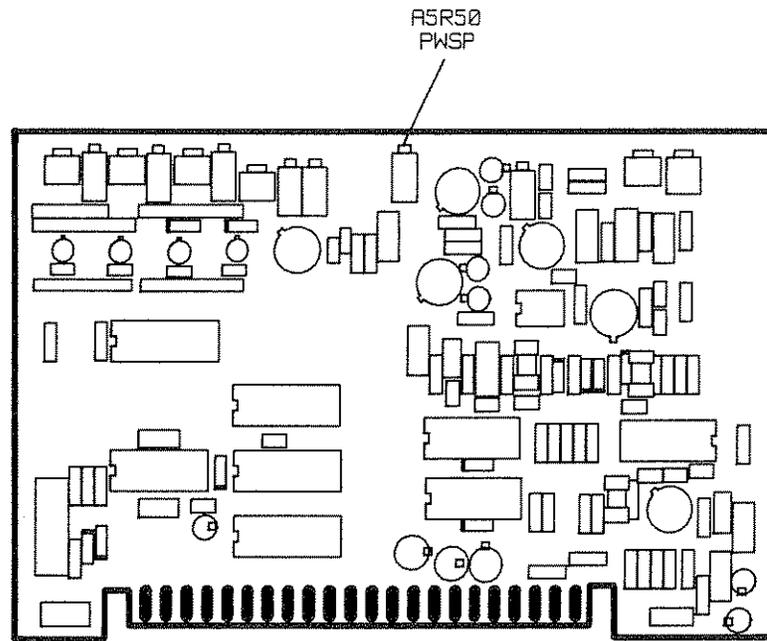
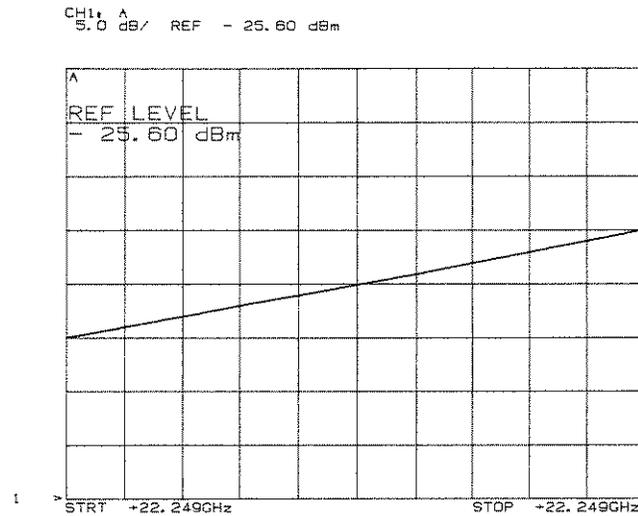

Figure 5-28. Power Sweep Adjustment Location
Figure 5-29. Power Sweep After Adjustment
6. While observing the HP 8757A display of the POWER SWEEP output, adjust A5R50 (PWSP) (See Figure 5-28 for adjustment location) for 10 dB/sweep (two major divisions). Refer to Figure 5-29 for properly adjusted power sweep.